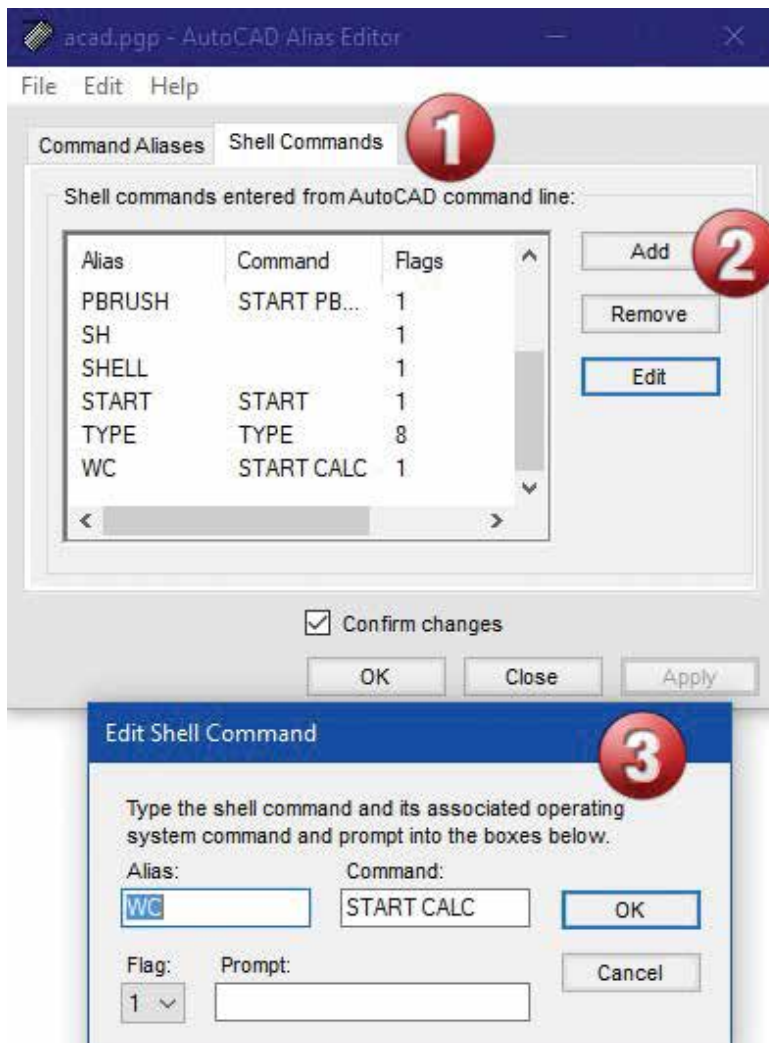

Figure 13
3. Add the information as shown in Figure 13.